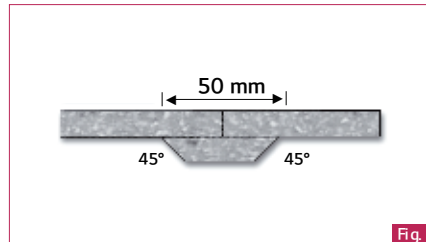

Fig. 3
- 8.5 Wherever possible reinforce all joints (Fig. 3) with a strip of 12 mm HI-MACS® at least 50 mm wide and angled to 45° along both long edges. Ensure that the strip covers the whole joint and spread adhesive over the complete surface of the strip. Clean joint smooth from underneath.
- 10.7** Before bonding, cover the tray beneath the seaming table with a transparent tape in order to catch any overspill of adhesive (Fig. 3).